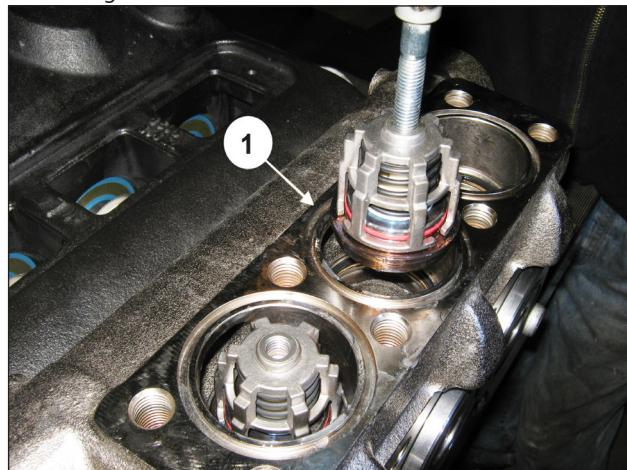

Fig. 102
Extract the outlet valve unit with the use of an extractor hammer (code 27516400) to be applied on the M10 hole of the valve guide (pos. ①, Fig. 102) or, in addition, an M10-M16 adapter (code 25089700) to be attached to the M16 thread of the valve guide.